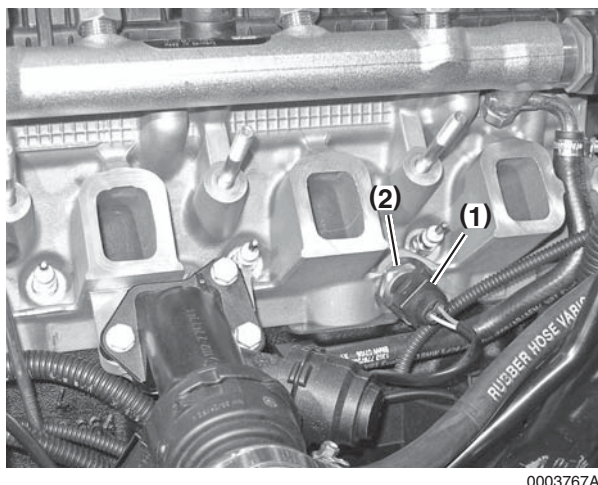

Figure 12-24
3. Remove electrical connector (**Figure 12-24, (1)**) from sensor.
4. Remove sensor (**Figure 12-24, (2)**) from cylinder head.